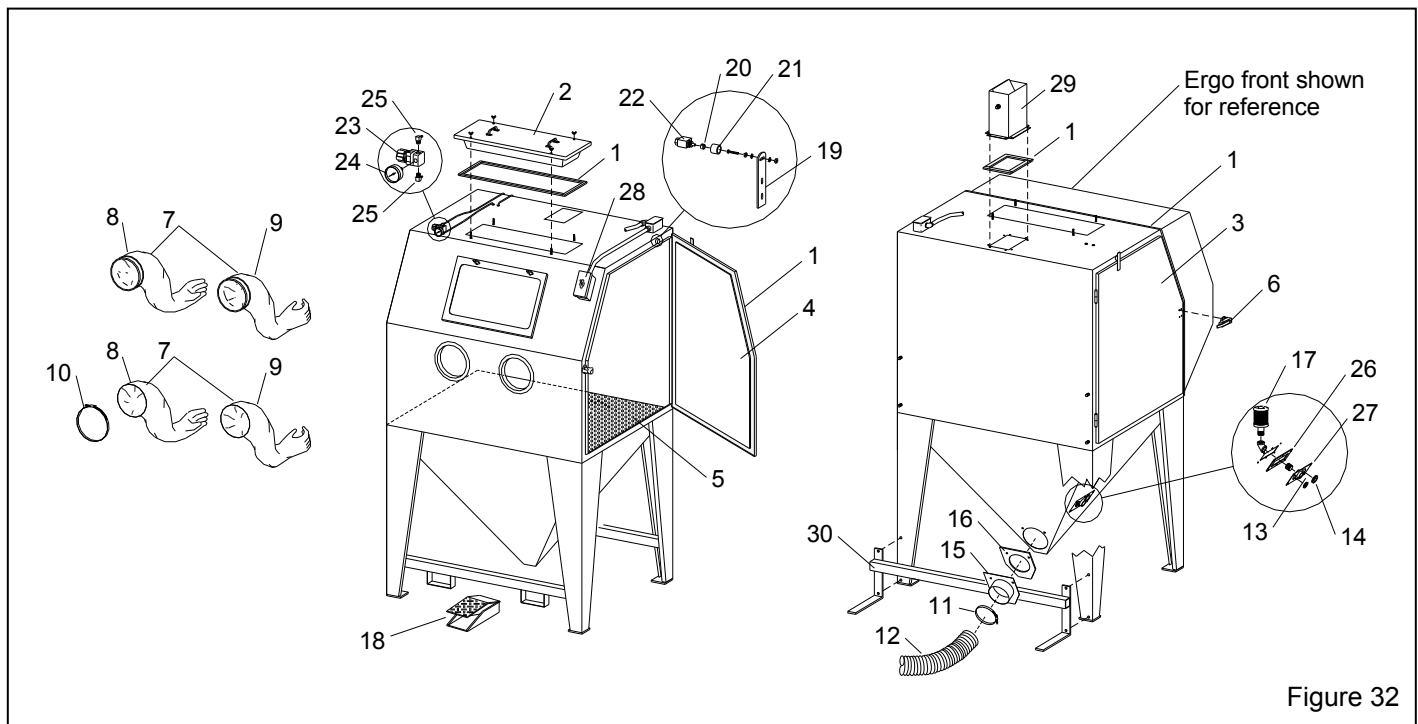

Figure 32
9.2 Cabinet Replacement Parts, Figure 32